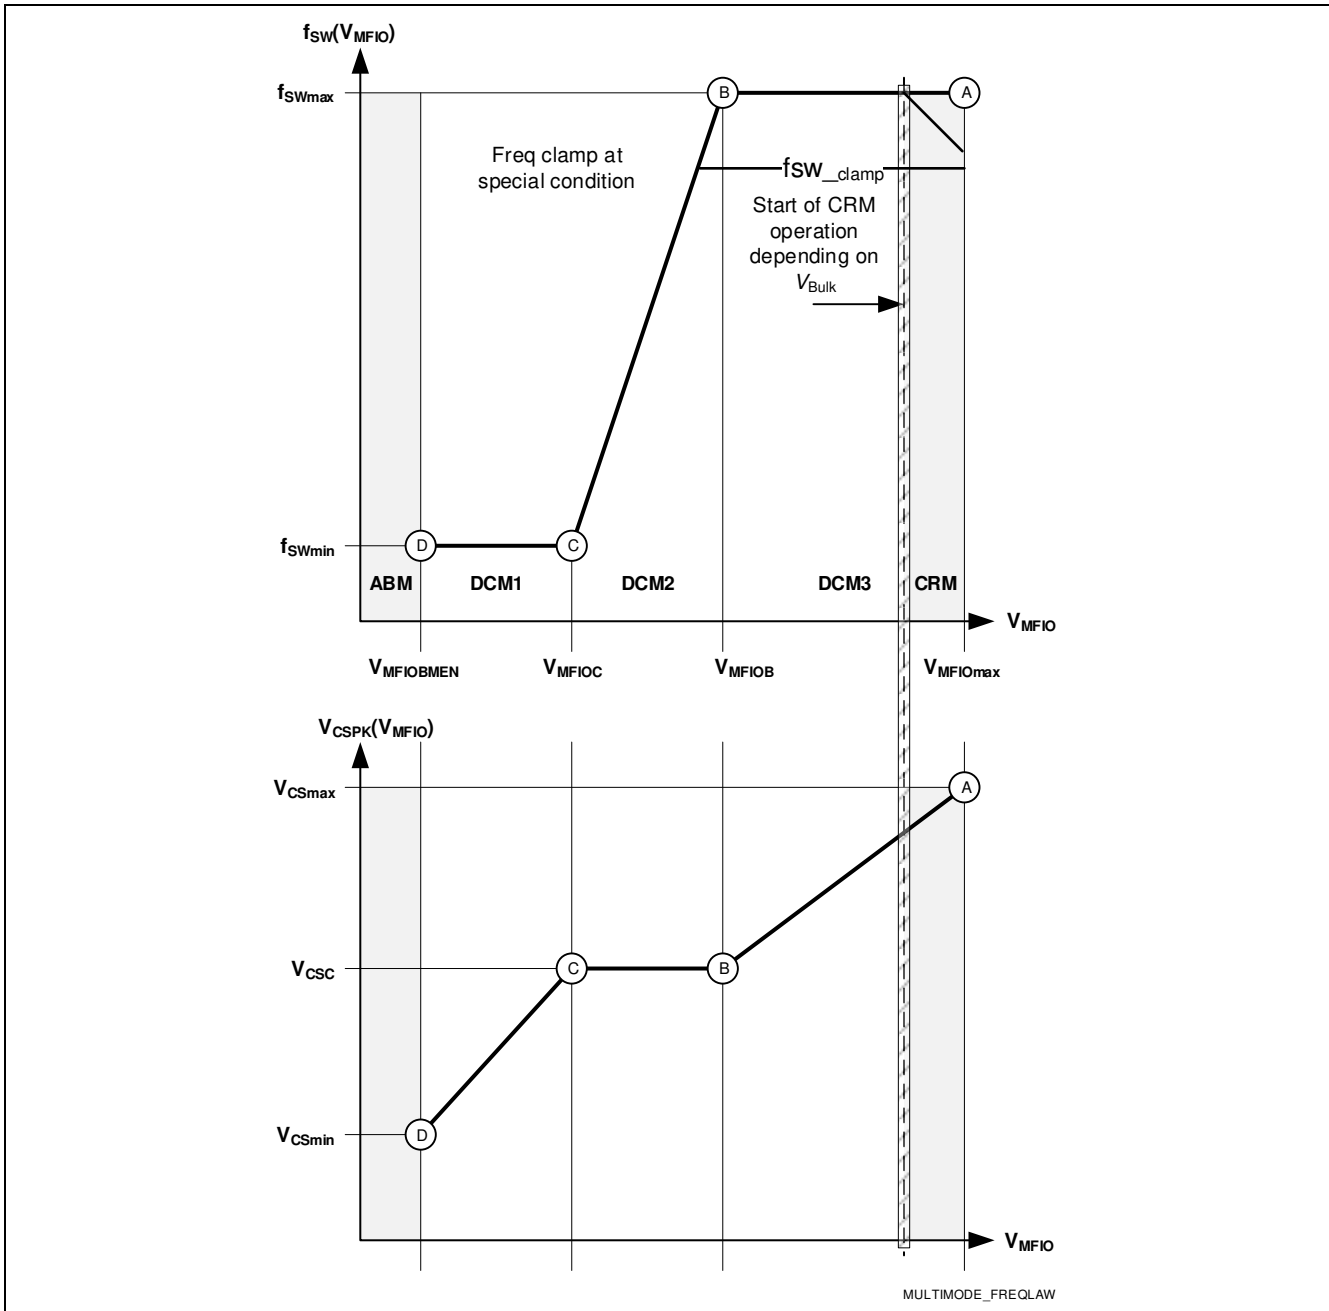

Figure 23 Configurable frequency law and peak current schemes depending on signal at MFIO pin
The configurable multi-mode operation depends on the inductance design, switching frequency, load condition and the bulk voltage  $V_{BULK}$ . It is characterized by the frequency scheme and peak current correlation shown in Figure 23. The peak current limit  $V_{CSPK}$  (y-axis) and the frequency limits are set according to the input signal at MFIO pin. The peak current limits for  $V_{CSPK}$  are shown for the low and high-line use case (see Chapter 4.2.3), which consider the propagation delay compensation (PDC). The border for entering the burst mode (BM) is determined by the setpoint D. The actual peak current and the actual switching frequency areas follow:
The following Figure 23 shows an example of using all possible multi-mode operation phases that are determined by the corresponding setpoints A, B, C and D. The specific frequency law setting for XDPS21071 based on the FW: REV 1.0 is shown in Chapter 4.2.8.1. Setpoints A and B can change from lowest switching frequency (burst frequency) e.g. 30 kHz to maximum switching frequency 139.4 kHz. Setpoint B and C are also configurable, i.e.  $V_{mfioC}$ ,  $V_{mfioB}$ ,  $V_{csc}$  are also configurable, so the middle to light load efficiency can be optimized for different combination of frequency and peak current.